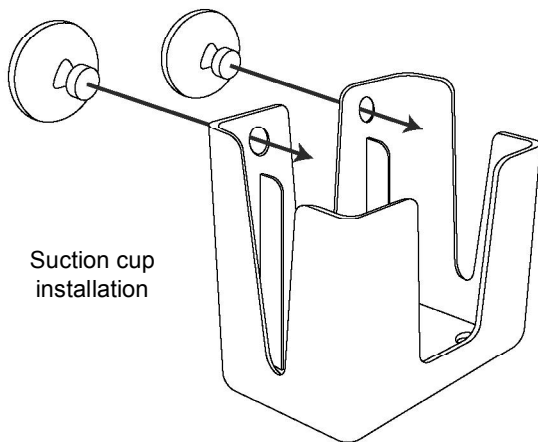

Figure 11
- 3a. If you plan to remove or relocate the cradle antenna at some point, use the suction cups provided in Packet A. Using a twisting motion, press the suction cups into the two holes on the antenna cradle (see Figure 11), then press the cradle onto the glass at the desired location.